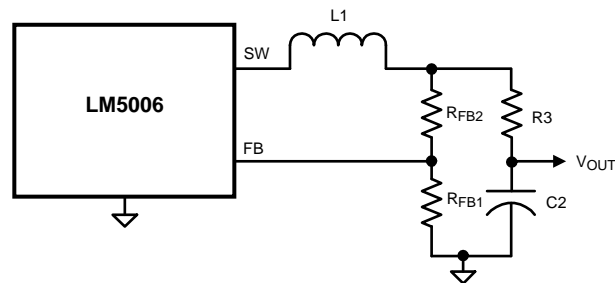

Figure 40. Alternate Minimum Output Ripple
**c) Alternate minimum ripple configuration:** The circuit in Figure 40 is the same as that in the Block Diagram, except the output voltage is taken from the junction of R3 and C2. The ripple at  $V_{OUT}$  is determined by the inductor's ripple current and C2's characteristics. However, R3 slightly degrades the load regulation. This circuit may be suitable if the load current is fairly constant.